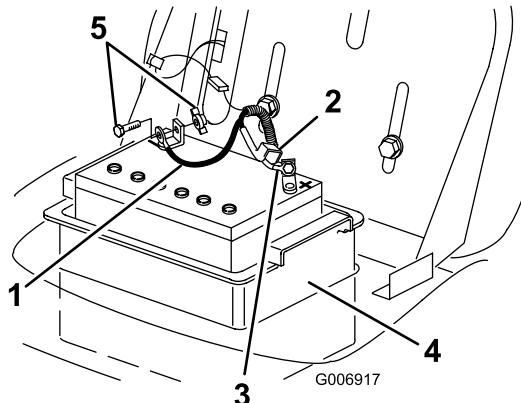

Figure 24
4. Disconnect the negative (black) ground cable from the battery post (Figure 24).
5. Slide the rubber cover up the positive (red) cable. Disconnect the positive (red) cable from the battery post (Figure 24).
6. Remove the battery box and battery from the chassis (Figure 24).
1. Put the battery into the battery box and install it into the chassis (Figure 24).
2. Using the bolt and wing nut, connect the positive (red) cable to the positive (+) battery post (Figure 24).
4. Using the bolt and the wing nut, connect the negative (black) cable to the negative (−) battery post (Figure 24).